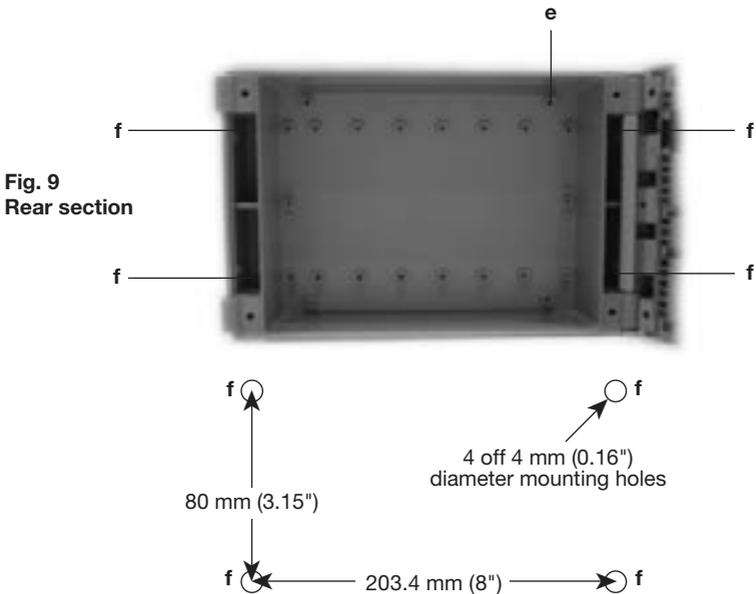

Fig. 10 Mounting detail for wall mounted version
6. The rear section 'e' can be attached to a wall using the four keyholes 'f' and suitable fastenings. Refer to Figure 10 for mounting detail.